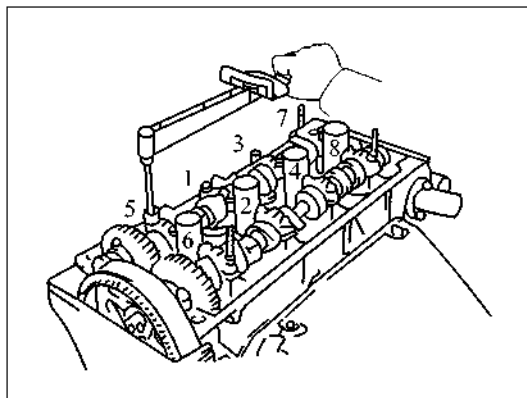

Figure 4-2-13 Tighten the Bearing Cap Bolts
5.5.7 Tighten 8 bearing cap bolts at a few times evenly according to the sequence shown as Figure 4-2-13.